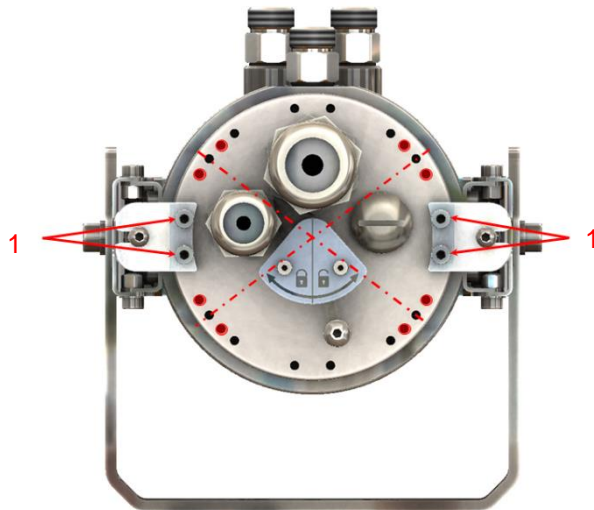

Figure 53: Installation angle of the camera
The chassis can be rotated as follows for the diagonal setup. Unlock the hinge and release the CoolingJacket using the locking lever. Loosen the four screws (1) on the mounting brackets (see **Figure 53**). Now turn the chassis to the desired direction (right or left) and fix it again in the desired position. The positions for the screw connection are marked in red in **Figure 53**.